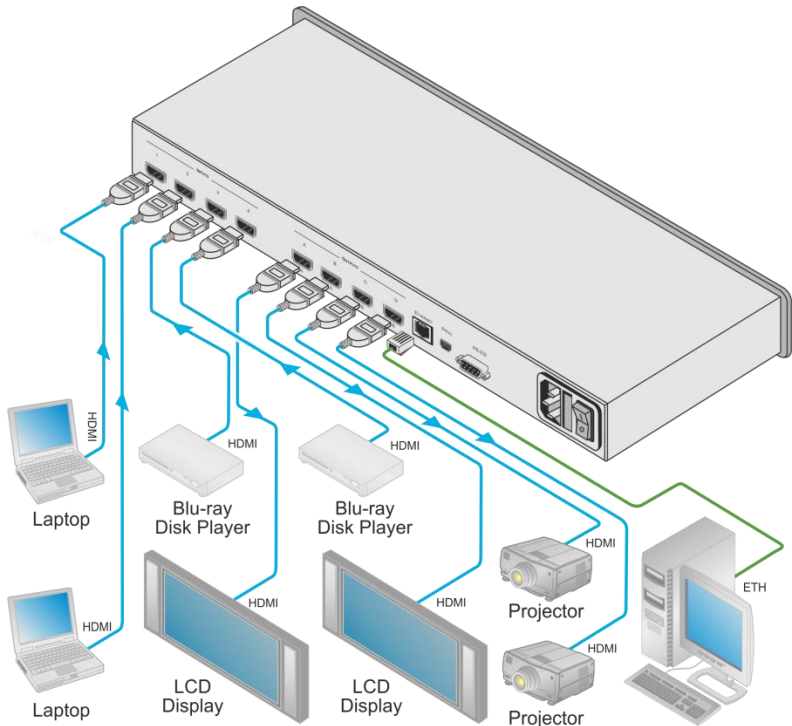

Figure 3: Connecting the VSM-4x4HFS Presentation Switcher / Scaler
To connect the **VSM-4x4HFS** in the MATRIX mode, as illustrated in the example in Figure 3, do the following:
3. Connect the power cord (not shown in Figure 3).